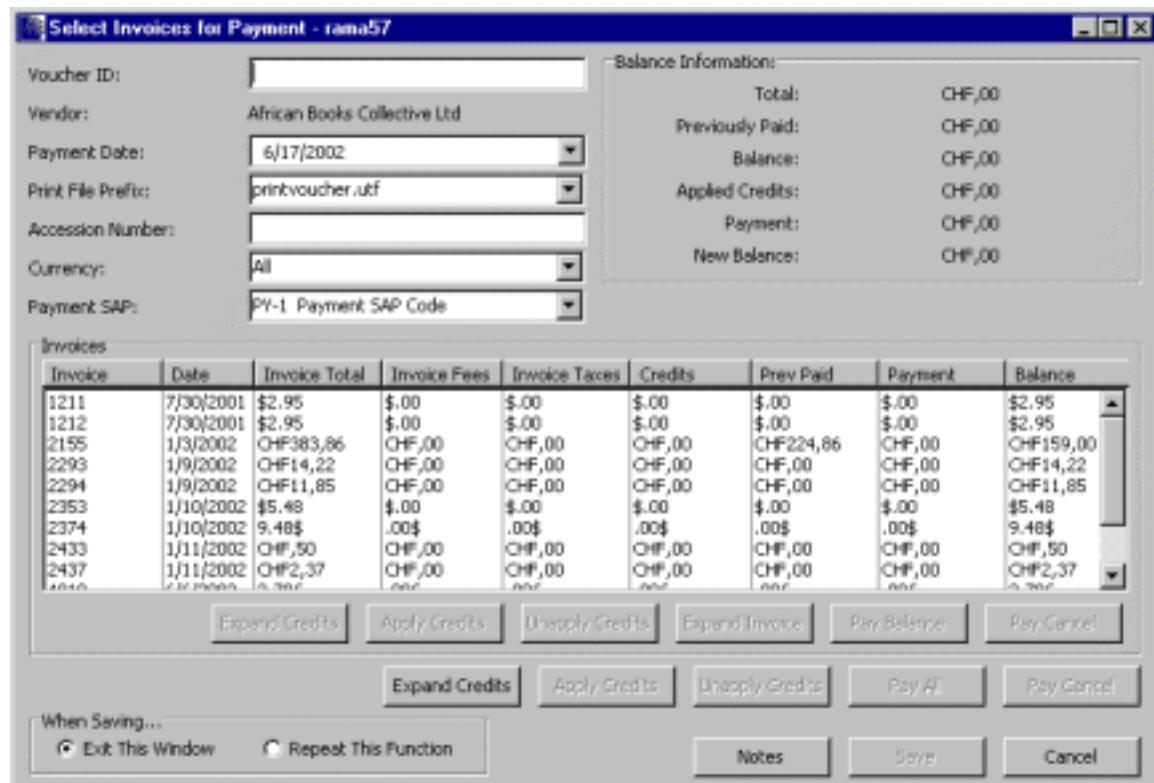

Figure 8-3. Select Invoices for Payment Window - More Than One Currency
- ◆ If all the invoices do NOT share the same currency, the field displays the word *All* in a pull-down list box (Figure 8-3). This means that all invoices, regardless of the currency associated with their orders, appear in the display box. When this occurs, all the command buttons on the window are disabled except for Expand Credits, Notes, and Cancel.